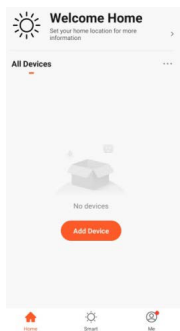

Fig 1
2. Open the “Smart life” App and access to “My home”. Press ”add device” as shown Fig.1